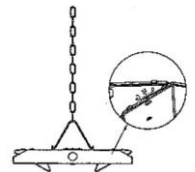

Figure 2
5. The light panels are rotatable with a maximum outward rotation of 135°. Adjust the panels to the desired position. (Figure 2)